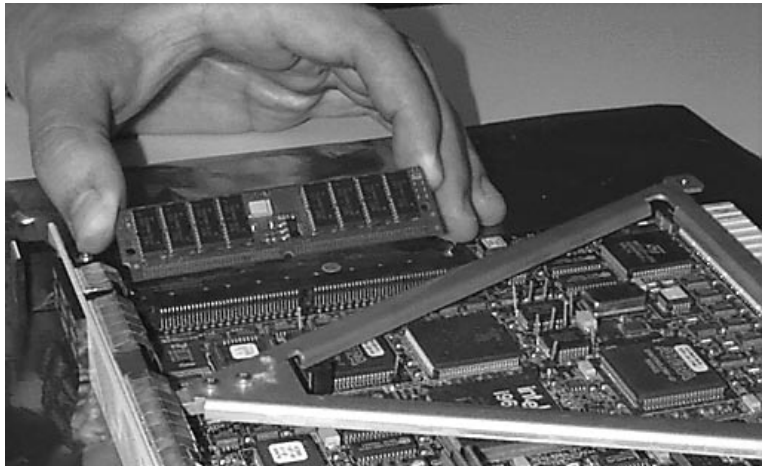

Figure 2-8 Removing the 16MB SIMM at a 45 Degree Angle
- 3 With your thumb and index finger, remove the SIMM from the connector at a 45 degree angle (Figure 2-8).